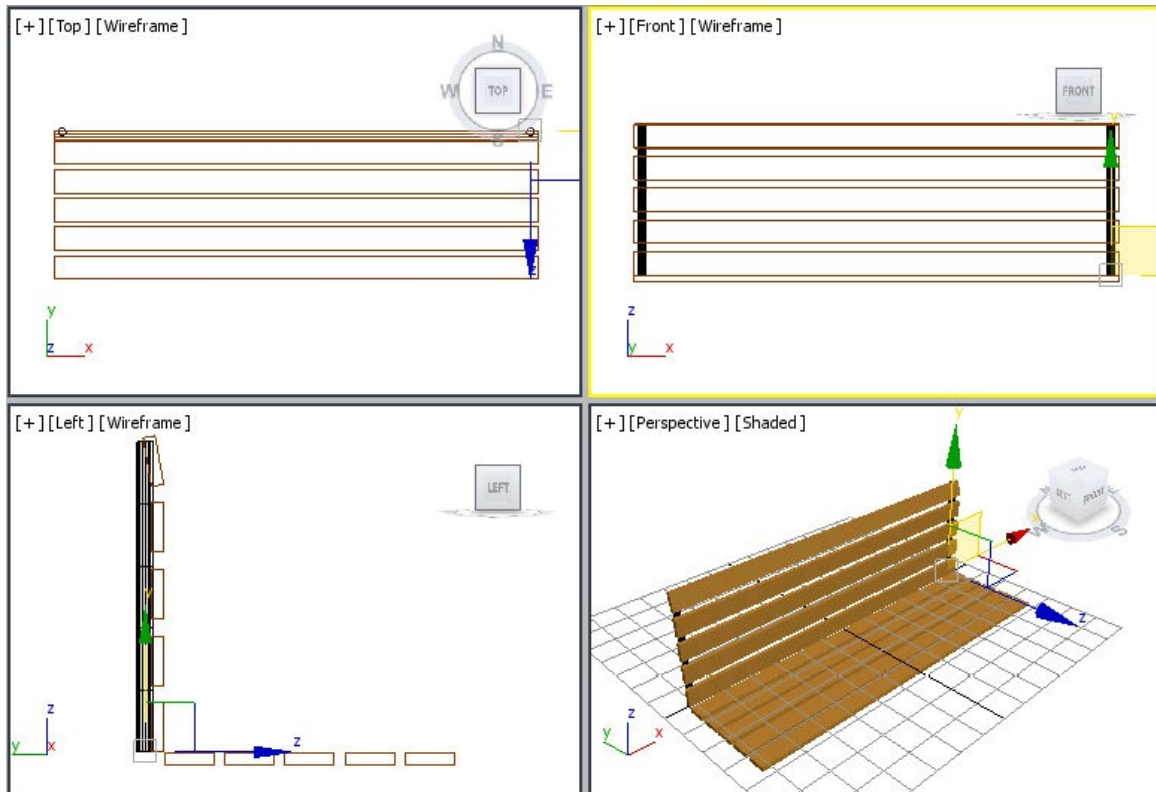

Figure 2-76 *The vertical back support002 in viewports*
6. Activate the Front viewport by middle-clicking in it. Choose the **Select and Move** tool and move the cursor over the horizontal axis. Press and hold the SHIFT key and the left mouse button, and then drag *vertical back support001* to the right side to align it on the right side of *horizontal back support*, as shown in Figure 2-76. Release the left mouse button and the SHIFT key; the **Clone Options** dialog box is displayed.
is displayed in the **Number of Copies** spinner. Next, choose the **OK** button; *vertical back support002* is created having same dimensions as *vertical back support001*, refer to Figure 2-76.